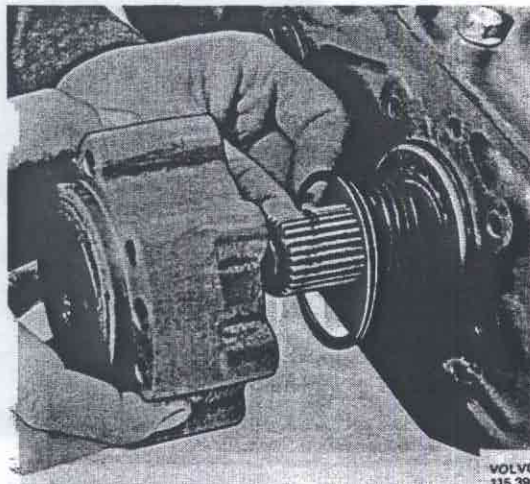

Fig. 43-147. Removing rear housing half
4. Remove the rear housing and the shims, Fig. 43-147. Remove the speedometer pinion.